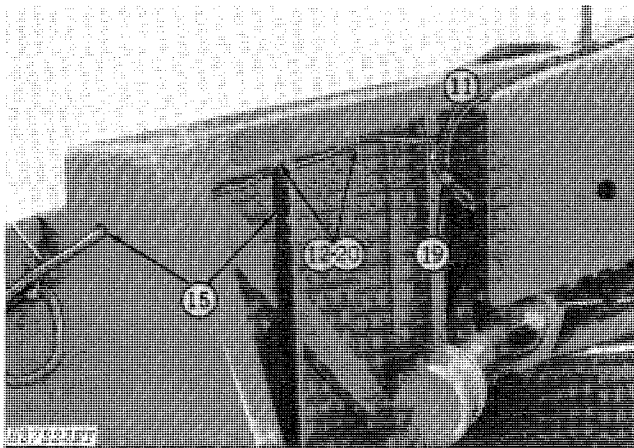

Fig. 115-Installing Clamps and Routing Conduit
11. Install "J" clamp, using 5/16 x 5/8-inch round head bolt, lock washer, and nut (Fig. 115).
12. Install "J" clamp. 453 and 454 Row-Crop Heads use one "J" clamp with existing hardware (Fig. 115). Larger row-crop heads use two "J" clamps with existing hardware.
15. Run conduit on back sheet of row-crop head, through "J" clamps, under brace, and through hole in side sheet and under two more "J" clamps (Fig. 115).
19. Be certain there is enough conduit to connect two conduit connectors from feeder house and header (Fig. 115).
20. Secure two or three rear "J" clamps (Fig. 115).